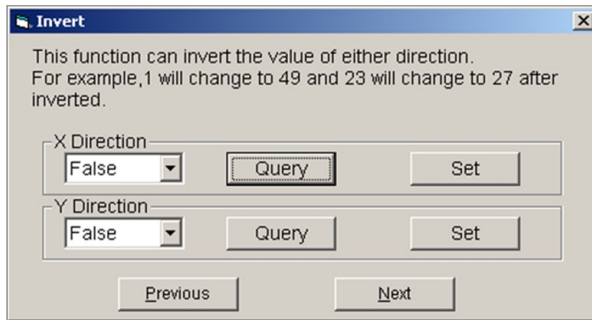

FIGURE 45: Invert Window, Used to Reverse the Direction of an Axis
2. The Invert window will open (Figure 45) which allows the direction of movement for the X or Y-axis to be reversed. This feature is useful where the installed orientation of the unit must match the direction of anticipated movement. If the direction of movement of an axis needs to be changed: